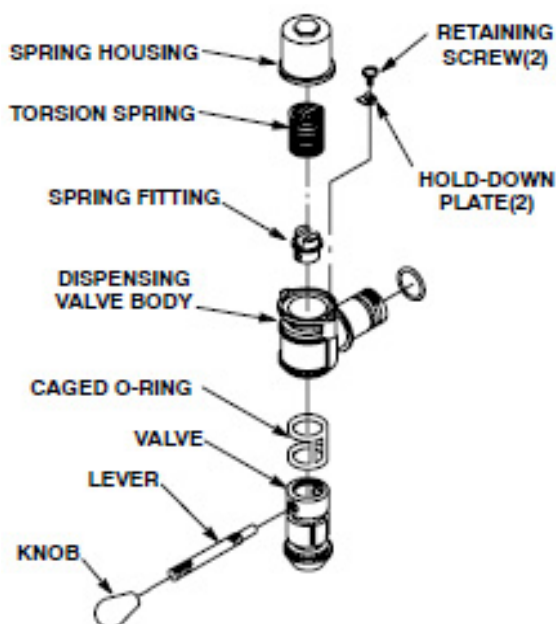

Figure 33. Self-Closing Dispensing Valve
6.	Disassemble the dispensing valve (see Figure 33).